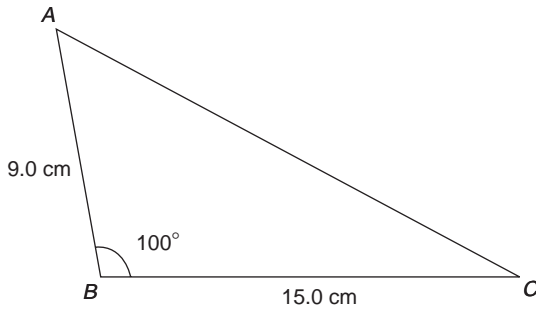

Figure M2
27. In triangle ABC in Fig. M2, the length AC is: